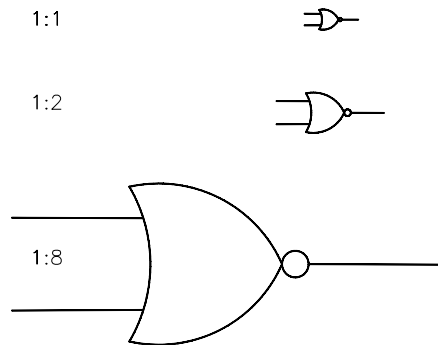

Figure 16-13 Annotative blocks inserted at different annotation scales
11. Notice the difference in the size of the inserted blocks, see Figure 16-13. This automated variation in size occurs due to annotative blocks. You will notice that the **Annotation Visibility** button on the right of the **Annotation Scale** button is on.